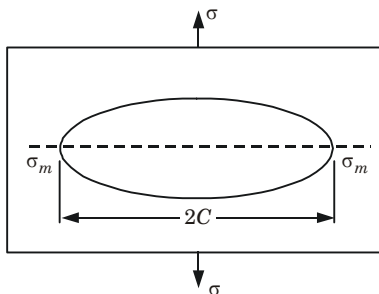

Fig. 5. Model for Griffith's fracture theory.
5. For an elliptical crack (Fig. 5), the maximum stress at the tips is given by :